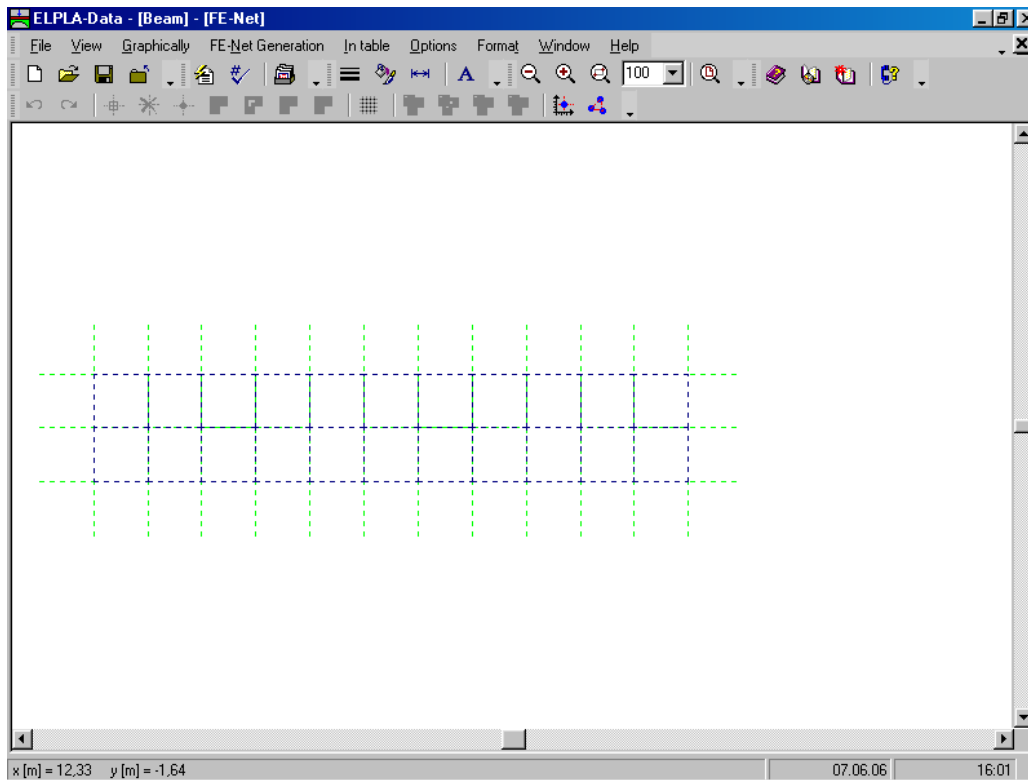

Figure 8-10 Imaginary net of a rectangular area on the screen
ELPLA will generate an imaginary net for a rectangular area of 11 [m] length and 2 [m] width with square elements of 1.0 [m] each side. The following embedded program in Figure 8-10 appears with the generated imaginary net.
- Choose "Save FE-Net" command from "File" menu in Figure 8-10 to save the data of the imaginary net
- Choose "Close FE-Net" command from "File" menu in Figure 8-10 to close "FE-Net" embedded program and to return to the main window of *ELPLA-Data*